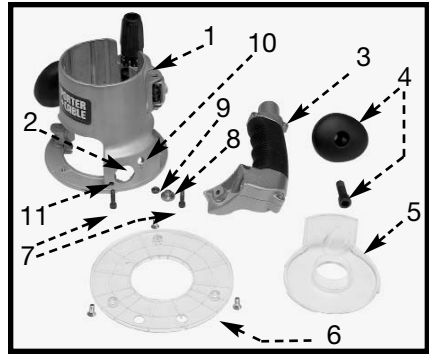

Fig. 24
2. Remove the plastic plug from the dust port (2) Fig. 24.
4. Align the holes of the GripVac handle to the holes of the router base (10) Fig. 24.
5. Insert a hex screw (7) Fig. 24 through the handle into the base housing (10). From inside the base housing, place the shoulder washer (8) and the hex nut (9) on the screw and tighten nut loosely.
6. From inside the base housing, insert the second screw (7) Fig. 24 into the hole (11) and screw it into the threaded hole of the GripVac handle.